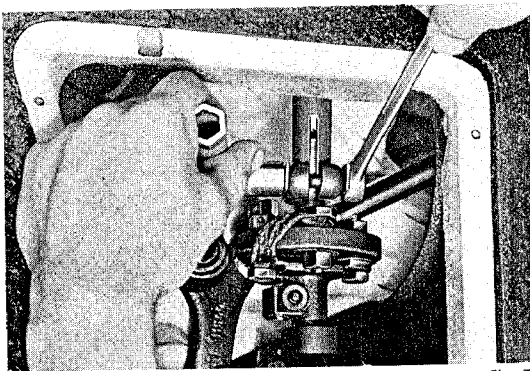

Fig. 74
3. Disconnect steering column at steering coupling (Unlock hex. hd. screw, unscrew and detach clamp from steering column (see fig. 74)